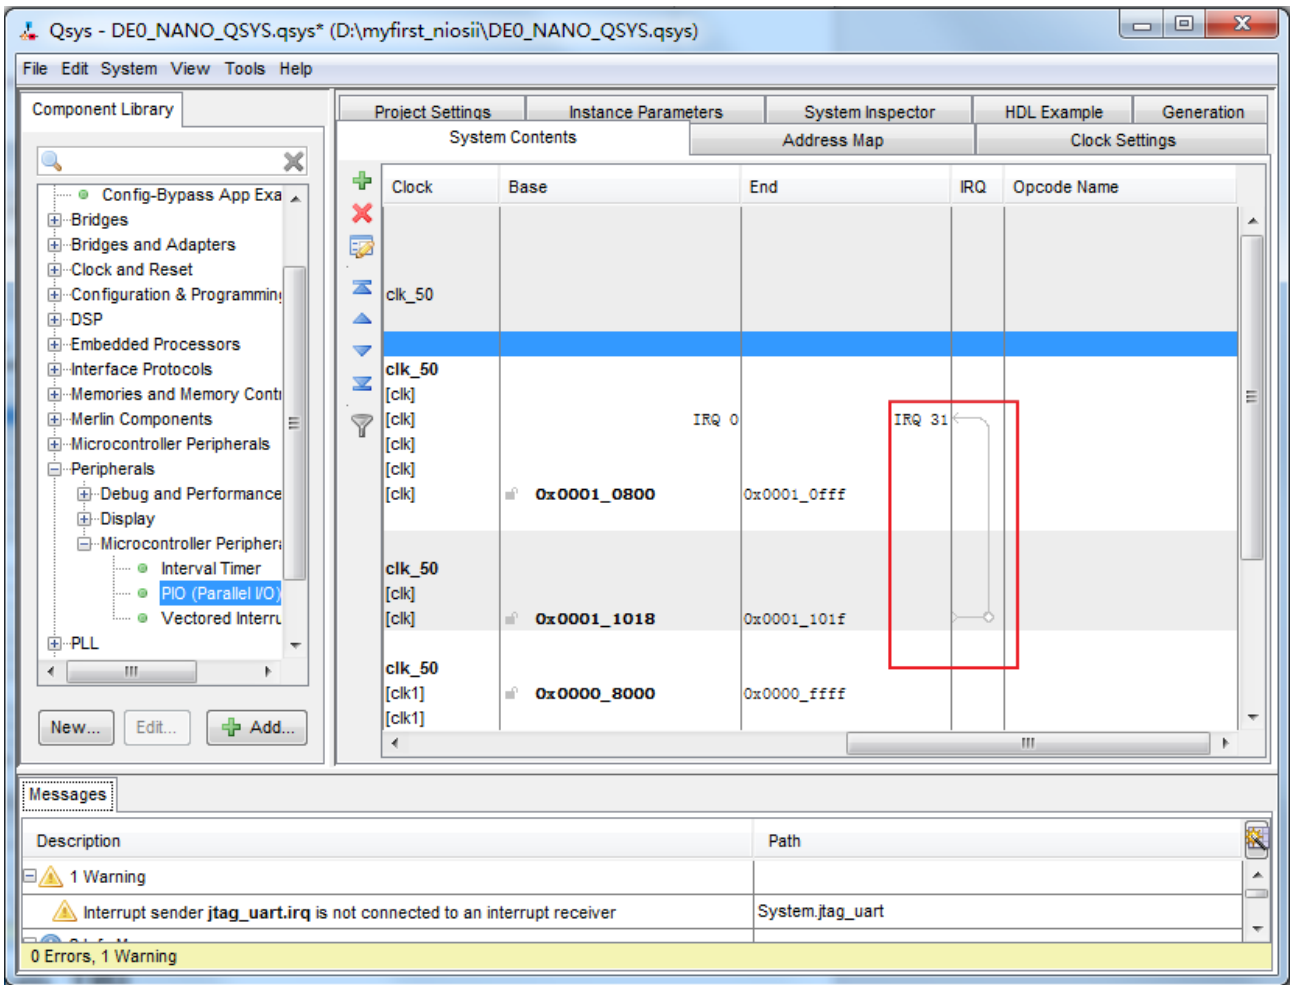
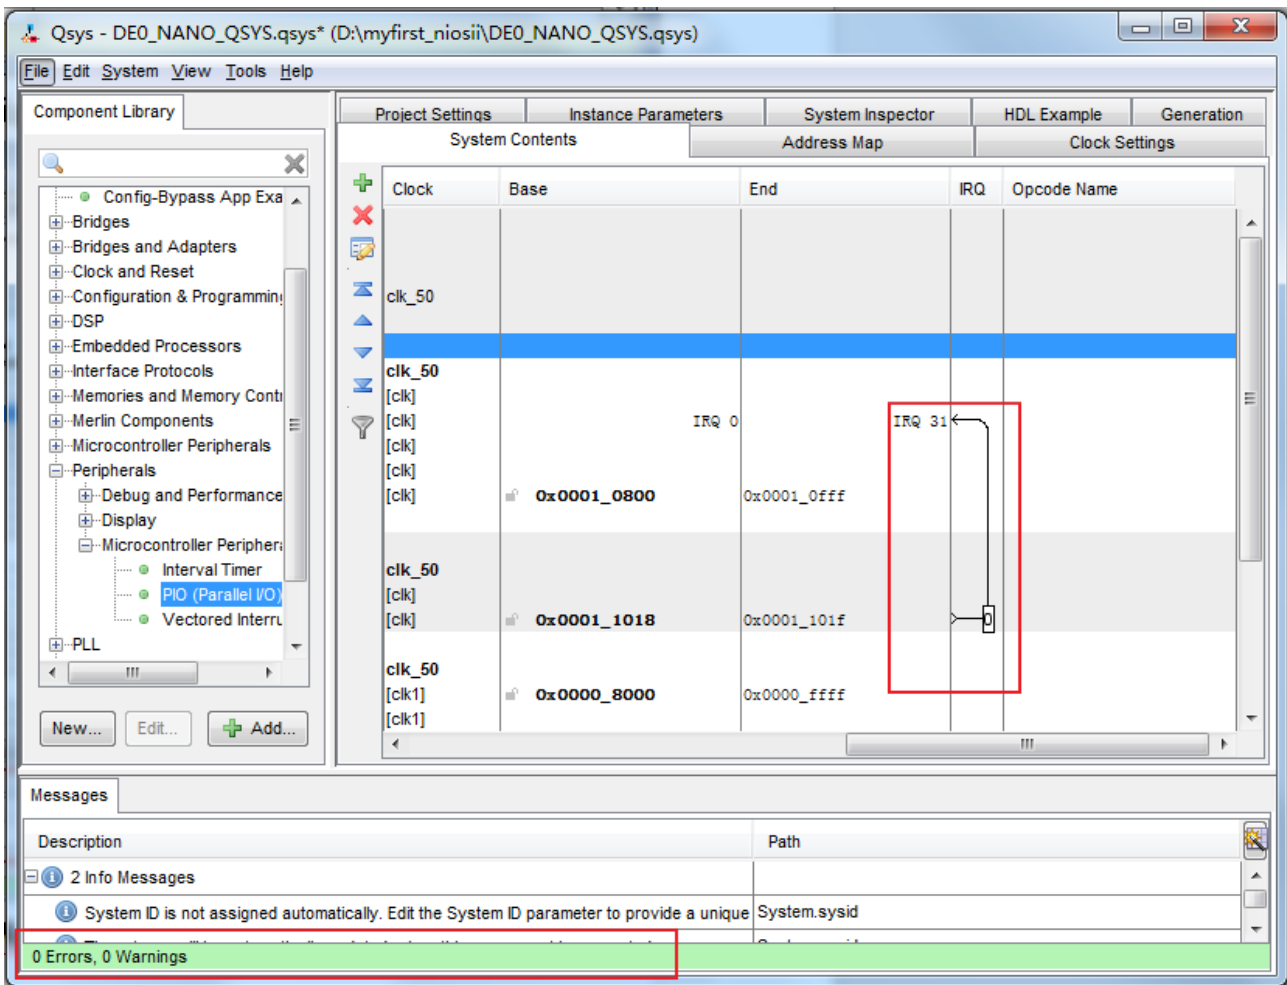

Figure 1-45 Assign IRQ
Figure 1-46 No Warnings
29. Assign Interrupt Numbers as shown in Figure 1-45. After that, you will find that there is no warnings in the message window as shown in Figure 1-46. (In the IRQ column, connect the Nios II processor to the JTAG UART)